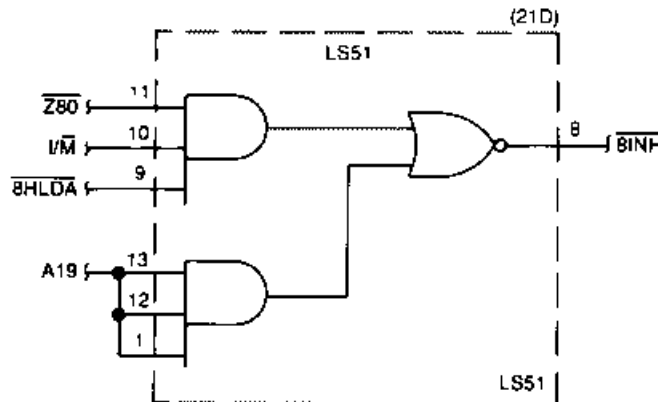

FIGURE 2-36. 8088 RAS INHIBIT CIRCUIT
2.3.2.7 8088 RAS Inhibit Circuit (Figure 2-36)